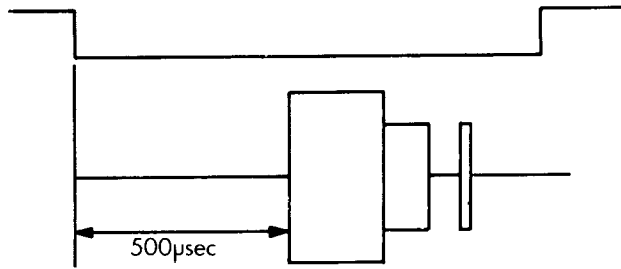

Fig. 5-1 Index burst waveform
- vi) Adjust VR201 so index frequency is $200 \pm 2\text{ms}$ (See Fig. 5-1).
- 5) Measure timing between sweep start and an initial data pulse. It should be 500 usec \pm 500 usec. When the timing is not within this range, proceed with the following adjustment. (Refer to Fig. 5-1).
- 8) Seek to the track OO and make sure that the timing is within 500 usec \pm 200 usec (\pm 300 usec). Tighten the screws. (Fig. 5-1).